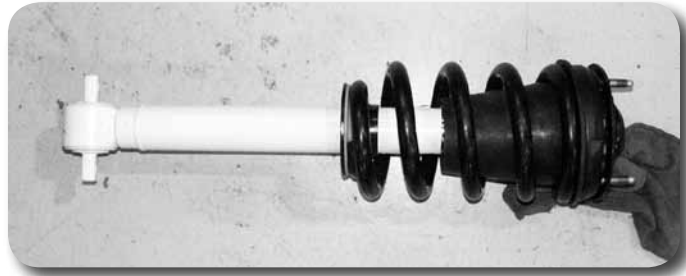

Figure 24
45. Install the new strut, orienting it the same as the factory one, in the coil spring. Fasten the strut with the new provided nut. Pay close attention to the lower mounting bar pin as it is not angled perpendicular to the strut body. This bar pin must be oriented correctly to mate to the lower control arm properly **Figure 24**. **Torque the strut nut to 22 ft-lbs. Do not overtighten.**